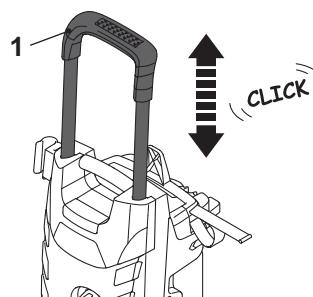

Fig. 19
- > Move the transportation handle (1) to required position (high/low position) (Fig. 19) .